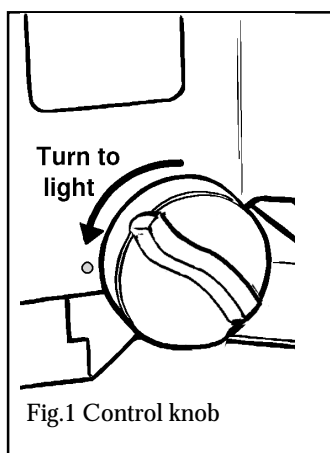

Fig.1 Control knob
3. On no account must the fire stand on carpets or other combustible materials. The fire must stand behind a non-combustible hearth surface. The hearth material must be at least 12mm thick. Its top surface should be 50mm above floor level to discourage placing carpets. Rugs or other combustible materials over the hearth. The minimum size of the hearth is shown in figure 1.
12. This appliance must be installed with a slotted firefront having a minimum free area of 6500mm² and a hearth casting having a minimum free area of 3300mm². See figure 1 in the installer's guide for details.
Depress the control knob and turn anticlockwise towards the PILOT/IGN position (Figure 1). A spark should be generated at the pilot while turning. The spark should ignite the pilot. The pilot flame can be seen below round coal at the front left side.